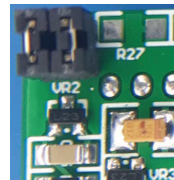

Figure 4: DIP switch hardware configuration
- 4.1.1 Configure the appropriate jumper configuration of the SPMC009 as shown in **Figure 4** below. This will set the decimal point in the correct location for 1 significant digit after the decimal point to correctly display the range of 0.0 to 100.0.